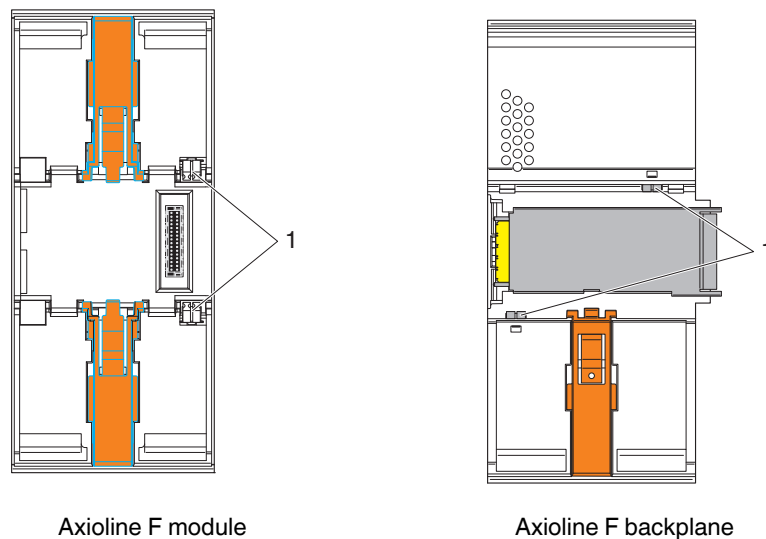

Figure 9-1 FE spring (1)
- 1 The Axioline F modules (controller, bus coupler, backplanes, I/O modules) have at least one FE spring (metal clip, 1 in Figure 9-1) at the bottom. This spring establishes an electrical connection to the DIN rail when the module is mounted. When using grounding terminal blocks to connect the DIN rail to protective ground, the modules are then also grounded when snapped onto the DIN rail.